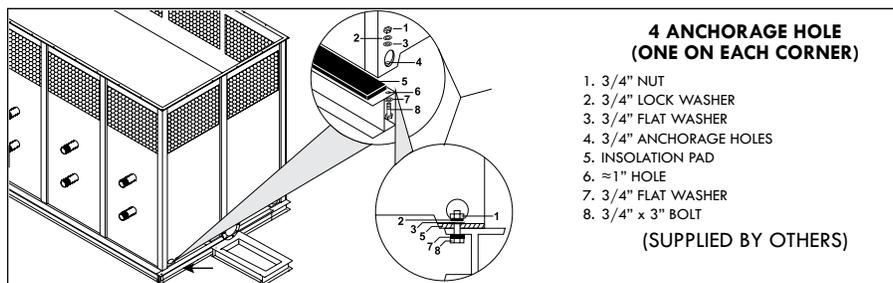

Figure A- 29: Typical anchorage for HFC-F models
H. Place the lower section of the tower (basin with copper coil) on top of the isolation pad and the steel base structure, making sure that the anchorage holes on the bottom of the tower are aligned with the perforations of the base. Then proceed to bolt it down and secure it with stainless steel nut and bolt sets (supplied by others, see Figure A-29).